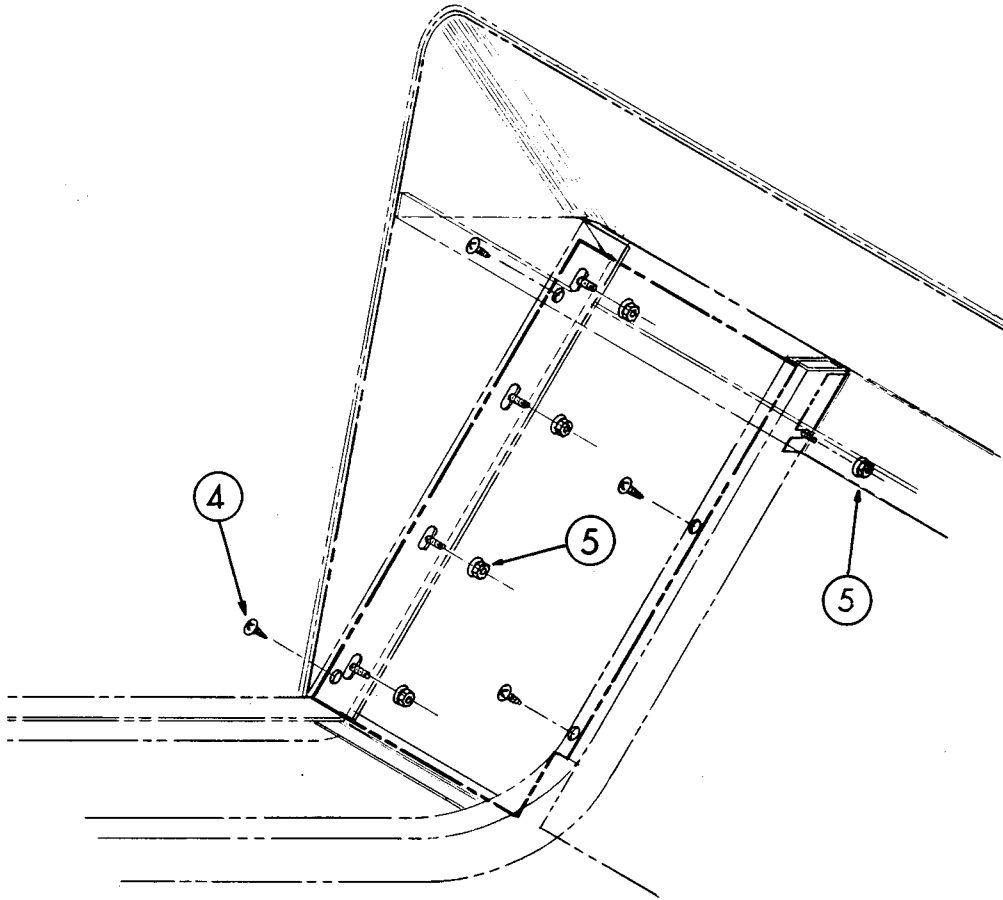

FIG. 5 M
Remove trim by peeling off at lower corner of cowl. The front cowl is secured to the frame with ten flanged nuts (5), (Fig. 5 M). To gain access to eight of these nuts two floorboard panels must be removed. Lift floormat and remove screws (4), remove panel (1) from both sides, remove nuts (5), (four each side of car). Remove or back off slightly two nuts (5) under front flange of cowl. Pull out on each side of cowl to clear mounting studs from frame, lift to the front and off. Install in reverse order.